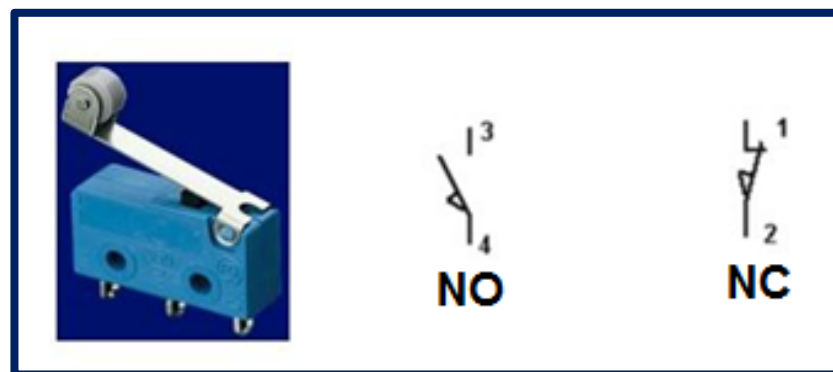

Figure 2.6 : Limit switch
- In Figure 2.6 illustrate*** the design of a limit switch (left) as well as the circuit symbols for an NO contactor (centre) or an NC contactor (right). We can see that the limit switch is depicted with an inverted arrow in the shape of a right-angled triangle drawn directly onto the switch contacts of the circuit symbol (<http://iamtechnical.com/>).